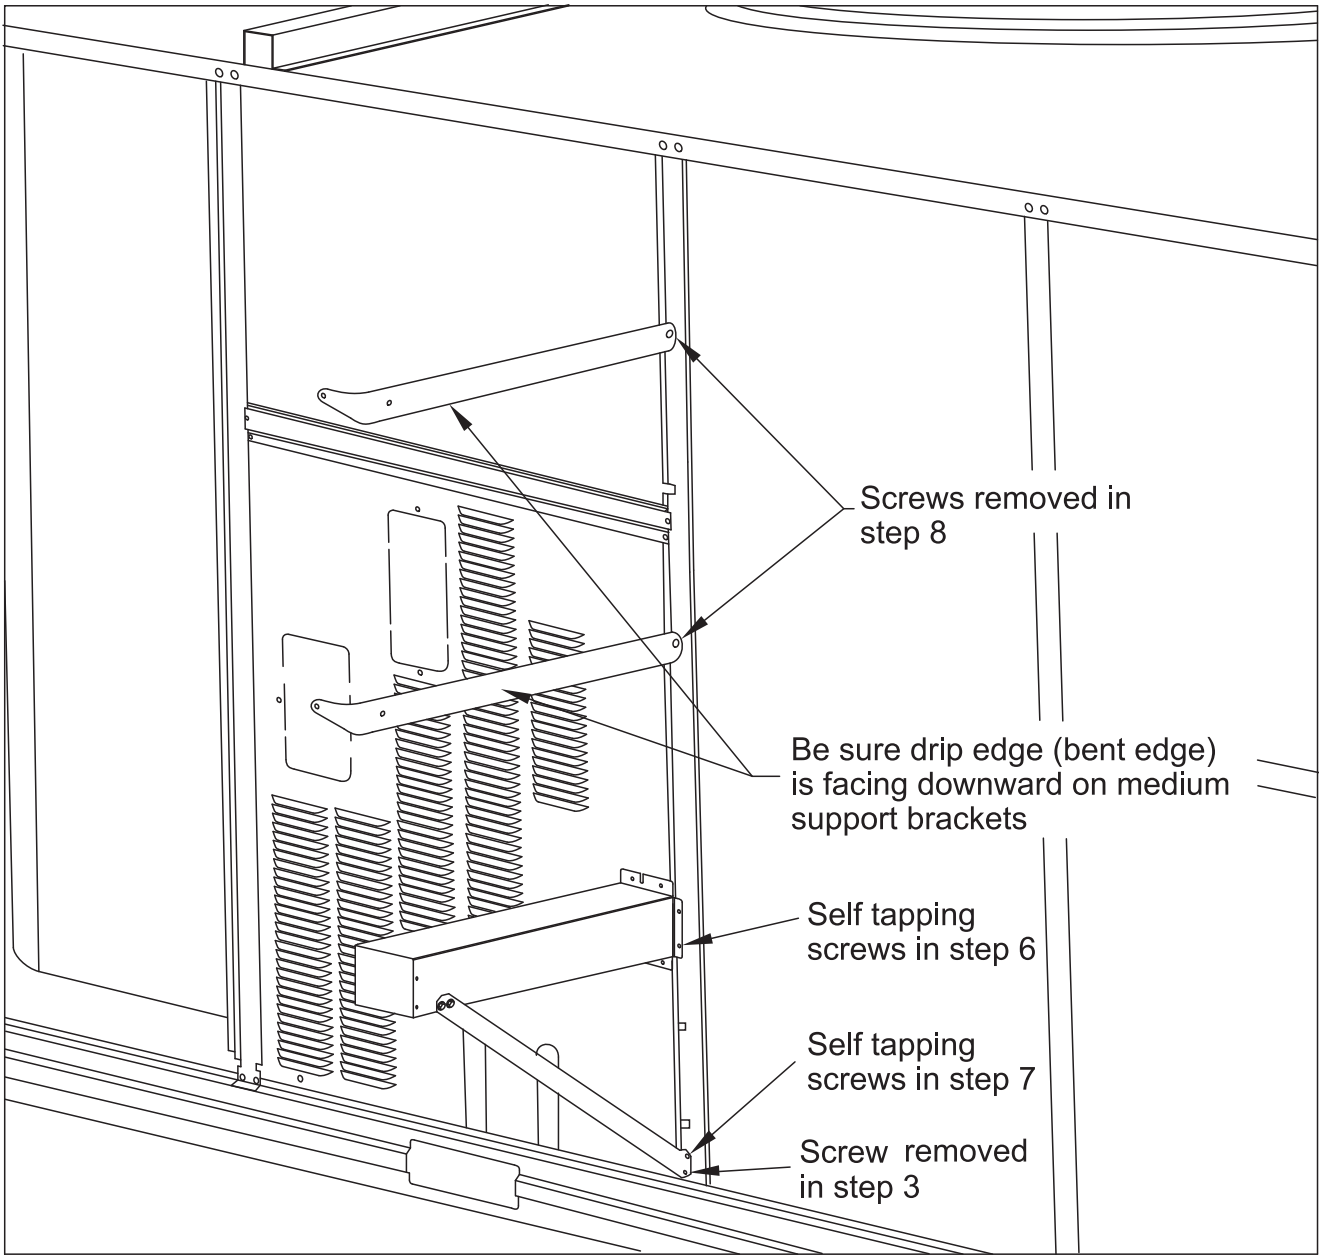

Fig. 2 - Flue Extension and Support Brackets Attached to Unit
3. Remove first screw from bottom left of center post on unit. (See Fig. 2.) Save screw for later use.
6. Secure flue extension through clearance holes in flange with 8 self tapping screws provided. These screws are in addition to the screws secured in step 4. (See Fig. 2.)
7. Secure short flue extension support bracket to center post with 1 self tapping screw provided. This screw is in addition to the screw secured in step 5. (See Fig. 2.)
8. From top of center post, remove 2nd and 4th screw. Save screws to use in next step. (See Fig. 2.)
NOTE: Be sure the drip edge (bent edge) is facing down. (See Fig. 2.)